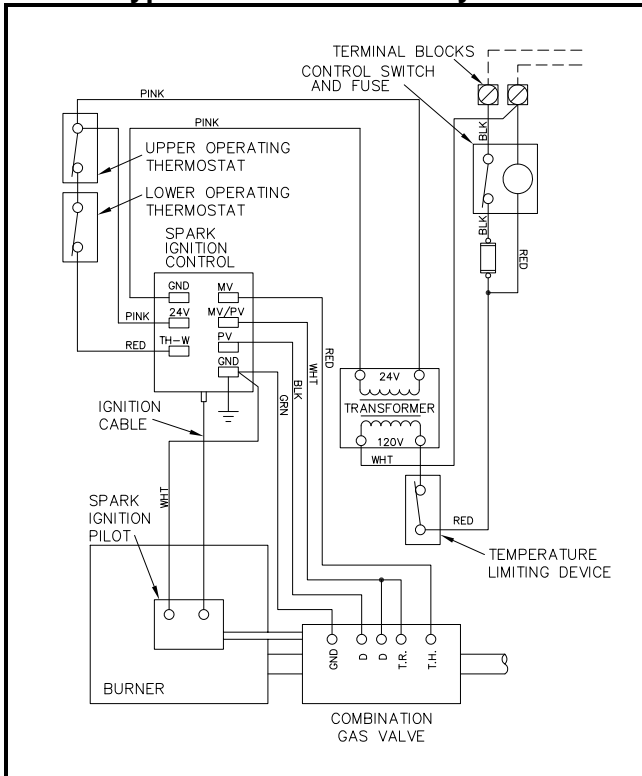

Figure 2-2
1. Wiring to the unit should conform to the National Electrical Code or the code legally authorized in your locality. A fused disconnect switch should be used for the water heater control. 120V, 1ph, 60 Hz service wiring is brought to the terminal block in the lower part of the enclosure on the water heater. See Figures 2-2, 2-3 and 2-4.